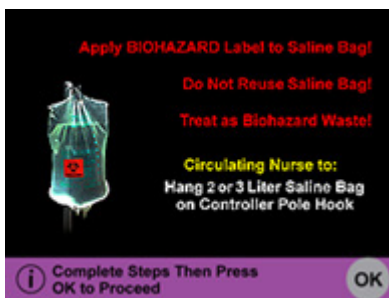

Figure 13
6. Set up instructions will appear on the Controller Screen (Fig. 13).
**CIRCULATING NURSE** – Check the Irrigation USP saline bag (2-liter or 3-liter) for damage; do not use if damaged. If undamaged, apply biohazard label (included in the Fluid Management shelf box) to the saline bag as instructed on the screen as a visual reminder not to reuse the saline bag (Fig.13)
**CIRCULATING NURSE** – Confirm that a SINGLE 2-liter or 3-liter saline bag is being used, if yes, press OK (Fig. 13).